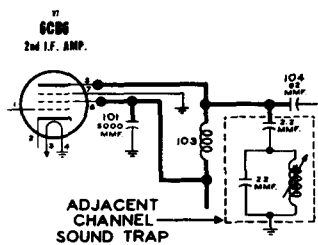

Fig. 9 — Stewart-Warner
**Installation of adjacent-channel sound trap (see Fig. 9).**